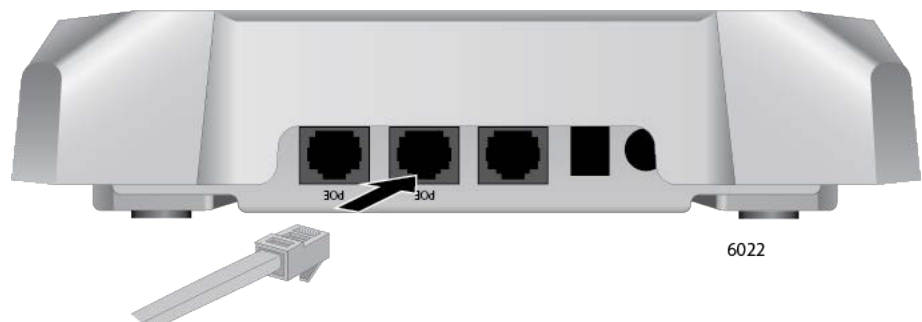

Figure 21. Connecting an Ethernet Cable to PORT1
1. To cable PORT1, connect an Ethernet cable into the port. The cable requirements are in “Cable Requirements” on page 19. Refer to Figure 21.